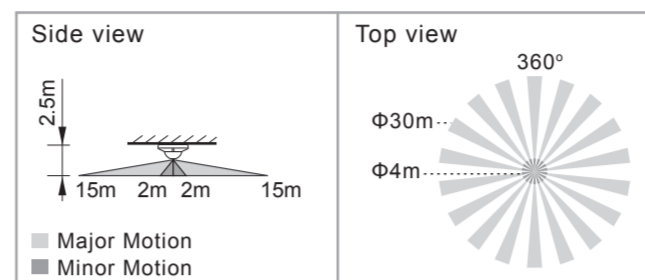

FIG.2
3.1.1 The detector can be installed at the height of 2 - 3m, it's recommended to install it at the height of 2.5m to gain the optimal detection pattern, the detection range can reach up to the diameter of 30m and 360° detection angle (See FIG.2).